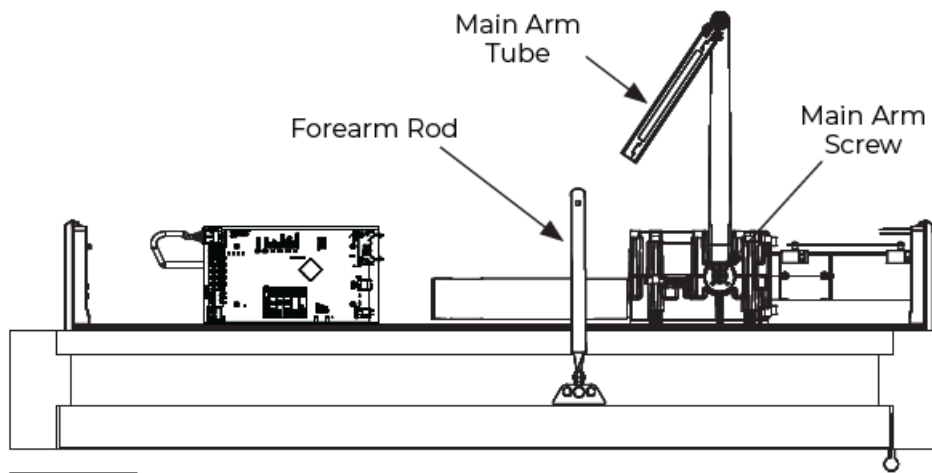

Figure 12 View: Looking up from floor
1. Using a hex wrench, secure the main arm to the bottom pinion with a 1/4- 20x 1/2" screw. (Figure 12)
2. Slide the main arm tube onto the forearm rod. (Figure 12)